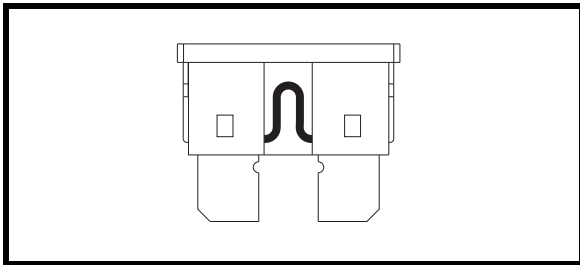

Figure 24. Working Fuse
2. Examine the fuse to be sure it is blown. See figures 24 and 24A.